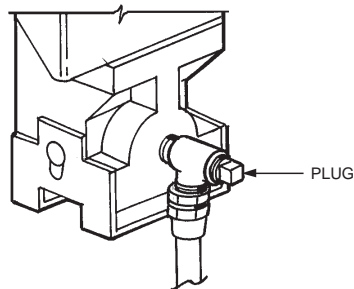

FIGURE 33
3. Remove plug from cartridge receiver. See Figure 33.